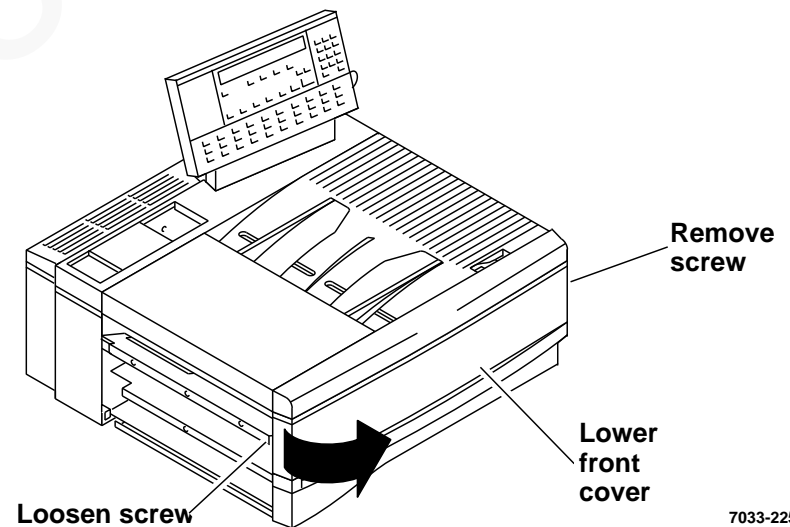

Figure 4. Lower front cover removal
- b. Remove the screw from the right end of the cover (Figure 4).